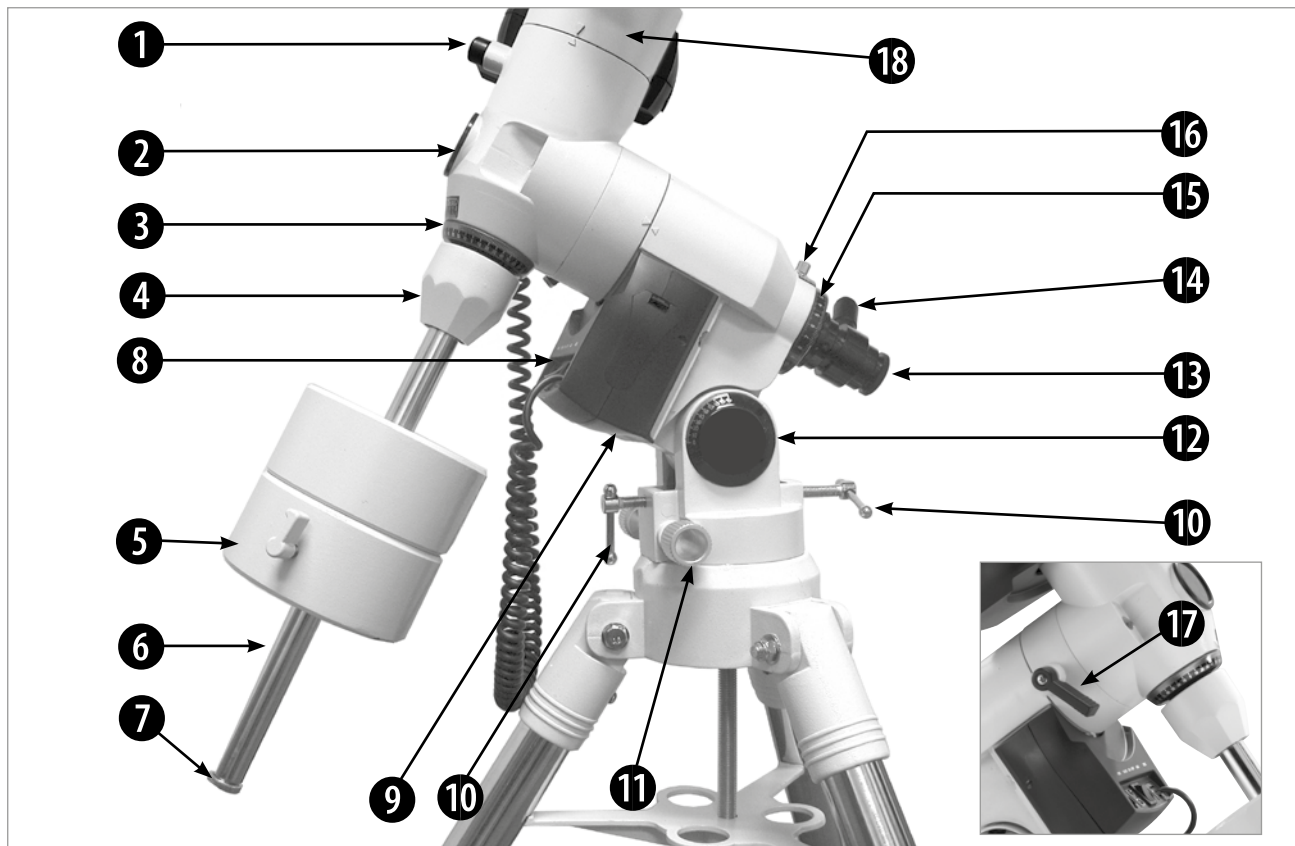

Fig. 1a: The mount; the detail shows the opposite side.
- ❾ **R.A. drive:** This provides positioning and tracking in the hour axis. The R.A. lock(17, Fig. 1a) must be tightened.
- ❿ **Altitude adjustment screws(10, Fig. 1a):** The latitude of your observing location is set here. The screws work in a push-pull configuration—when one is tightened, the other must be loosened accordingly.
- ⓲ **Dec drive:** Controlled via the hand controller. Moves the optical tube along the DEC axis. The DEC lock(1, Fig. 1a) must be tightened hand-tight for the DEC motor to operate.
For the telescope to stand securely and stably on the tripod and to move smoothly and evenly, it must be balanced. To balance the telescope, release the RA lock(**17, Fig. 1a**). If the axis is now free, the telescope will rotate about the RA axis. Later you will also release the DEC lock(**1, Fig. 1a**). If this is then released, the telescope will also rotate about the DEC axis. The telescope moves about these two axes, individually or simultaneously. Try to become familiar with these locks and observe how the telescope moves about the individual axes. To find the best possible balance for your telescope, follow the method described below:
*1. Hold the tube firmly so that it does not accidentally swing freely. Release the RA lock(**17, Fig. 1a**). The tube now moves freely about the RA axis. Now allow the telescope to rotate until the counterweight shaft is parallel to the ground.*
*2. Release the counterweight locking screw(**5, Fig. 1a**) and slide the counterweight back and forth on the counterweight shaft until the telescope is in a position where, when released, it does not move in either direction. Then tighten the counterweight screw again so that the counterweight remains in its current position and cannot slip.*
*3. Then hold the tube firmly once more so that it cannot move freely. Then close the RA lock(**17, Fig. 1a**) and release the DEC lock(**1, Fig. 1a**) again. The telescope is now able to rotate freely about the DEC axis. RA/SN models: Loosen the tube ring locking screws (**13, Fig. 1a**) so that the main tube can slide slightly forwards and backwards in the tube rings. Now move the tube back and forth in the tube rings until it remains in one position without moving in a particular direction. SC models: Slightly loosen the locking screws of the mount(**17 or 1, Fig. 1a**). Slide the tube in the dovetail mount of the mount back or forth until the tube is balanced. Then re-tighten the locking screws.*
2. Release the RA lock (17, Fig. 1a). Swivel the tube until the counterweight shaft points straight towards the ground (see also Fig. 3a and 3b).
3. If not already done, align the entire telescope setup so that the tripod leg beneath the counterweight shaft points (approximately) north. Then release the DEC lock (1, Fig. 1a) so that the optical tube 10 (Fig. 3a) can be swivelled. Now rotate the tube until it points towards the north. Re-tighten the locks.
4. If not already done, determine the latitude of your observing location. Use the latitude adjustment screws (10, Fig. 1a) to set the telescope mount so that the pointer indicates exactly the correct latitude of your observing location on the latitude scale (12, Fig. 1a).
To achieve the most precise GoTo functionality possible, the RA axis should, however, be aligned as accurately as possible to the celestial pole using the polar scope (13, Fig. 1a). See also the chapter “Improving polar alignment”.
- To locate an object, first loosen the RA lock(17, Fig. 1a)and the DEC lock(1, Fig. 1a). The telescope can now rotate freely about its axes. First loosen the locks individually and familiarise yourself with the individual movements. Then loosen both locks at the same time. It is important that you become familiar with all movements of your telescope, as handling an equatorial mount takes some getting used to.